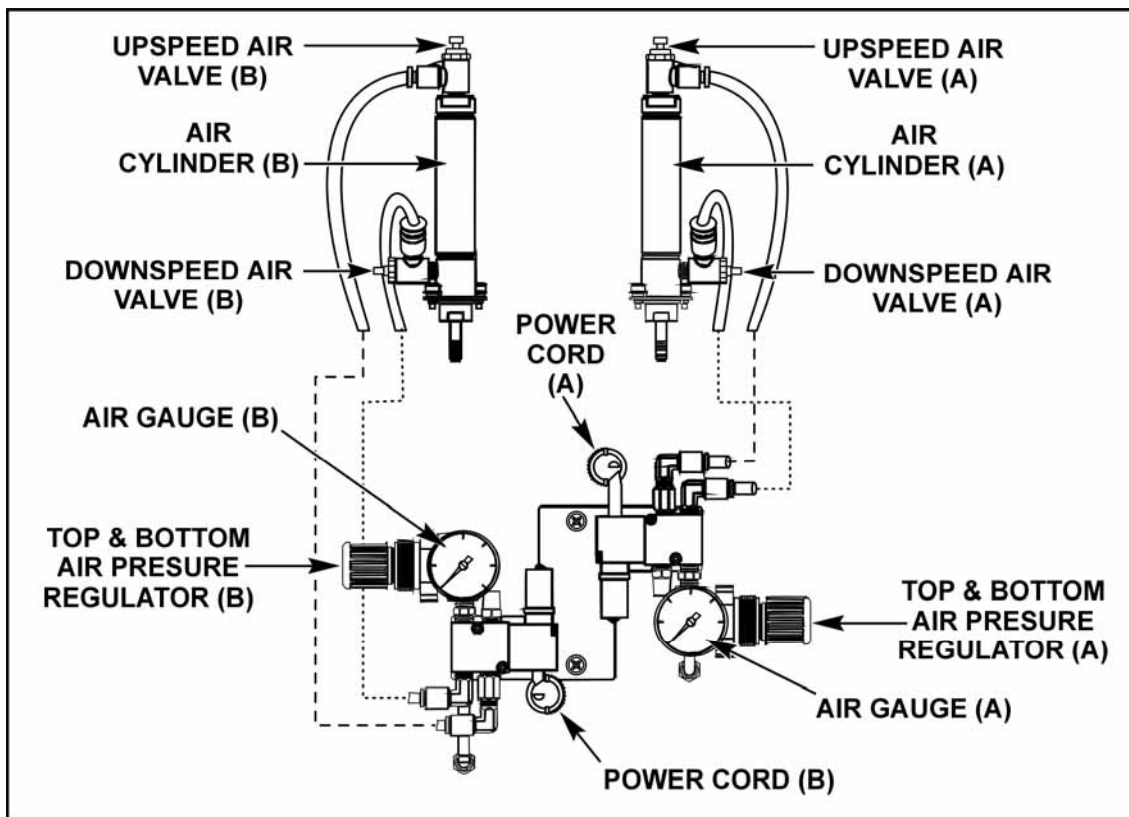

Figure 4-1. Typical Solenoid Air Valve System with Dual Regulators
- 4 Set the force indicator on all Unitek Peco weld heads to 3. For more detailed information on setting up each specific weld head, refer to their respective manuals. See figures 4-1 and 4-2 for illustrations of typical air actuated systems.